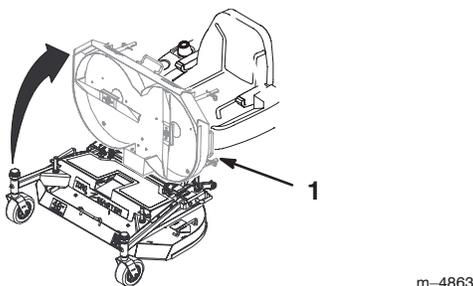

Figure 19
5. Standing in front of the mower, lift up on deck handle and push rearward on front to raise mower (Fig. 19).
2. Standing in front of the mower, pull the front deck handle forward and lower mower (Fig. 19).